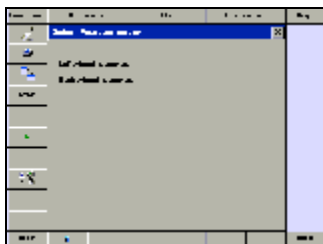

Fig.3.15
11. Select **Left-hand steering** as shown in Fig.3.15.